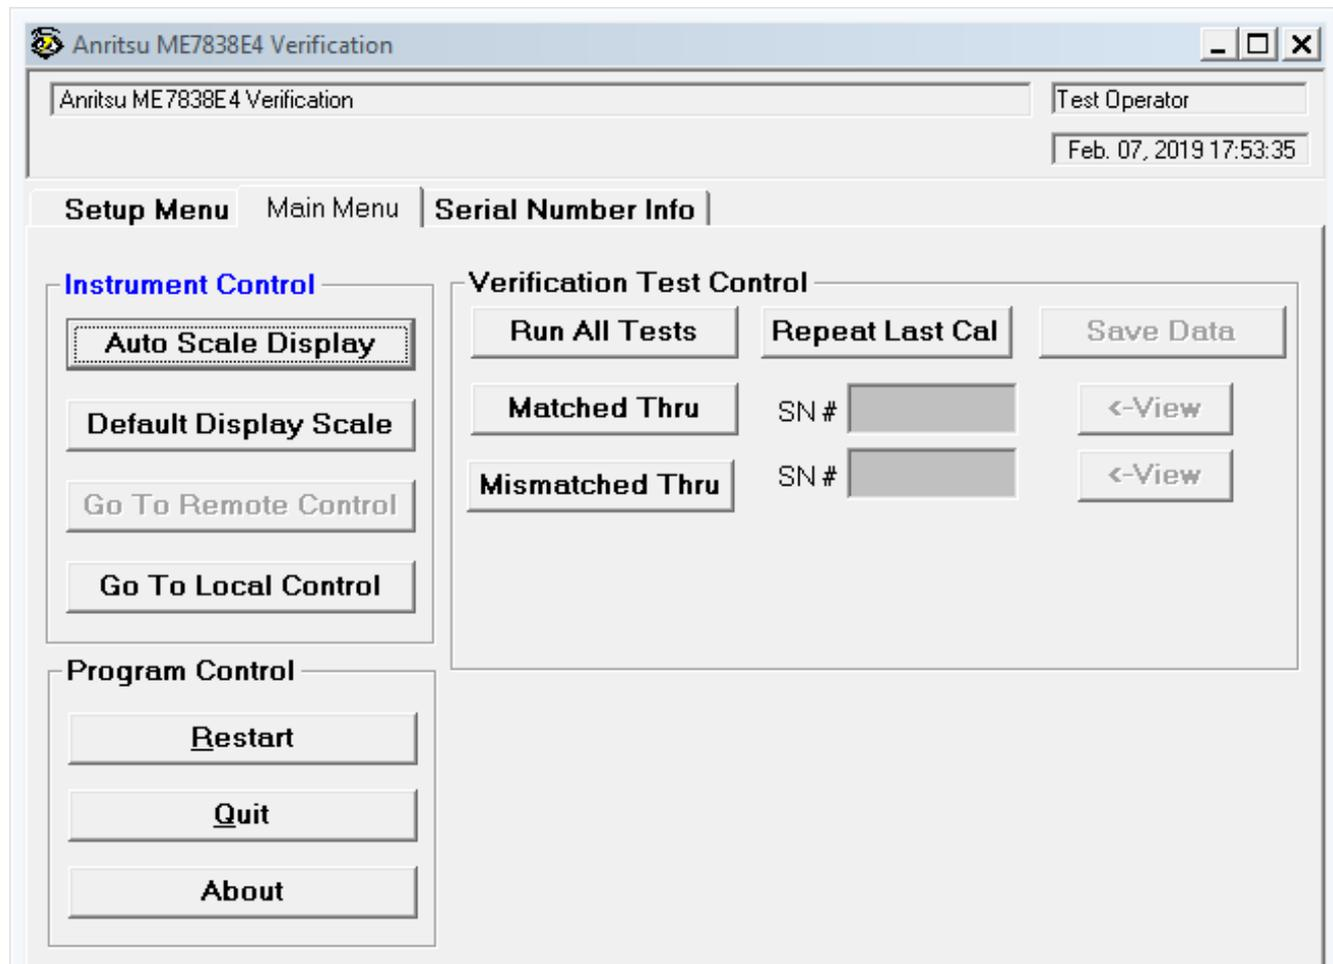

Figure 5-69. ME7838E4 Application Interface – Main Menu Tab
This command button re-calibrates the VNA according to the CURRENT calibration. This provides a way to recalibrate the VNA without having to reset the program parameters in case the original calibration was flawed for some reason. When the calibration sequence is complete, program execution continues to the Main Menu tab shown previously in Figure 5-69 on page 5-47.
9. If only the Matched Thru button was selected, the program returns to the “Application Interface – Main Menu Tab” on page 5-47. The dialog box is shown in Figure 5-69, “ME7838E4 Application Interface – Main Menu Tab” on page 5-47.
The dialog box is shown in Figure 5-69, “ME7838E4 Application Interface – Main Menu Tab” on page 5-47.